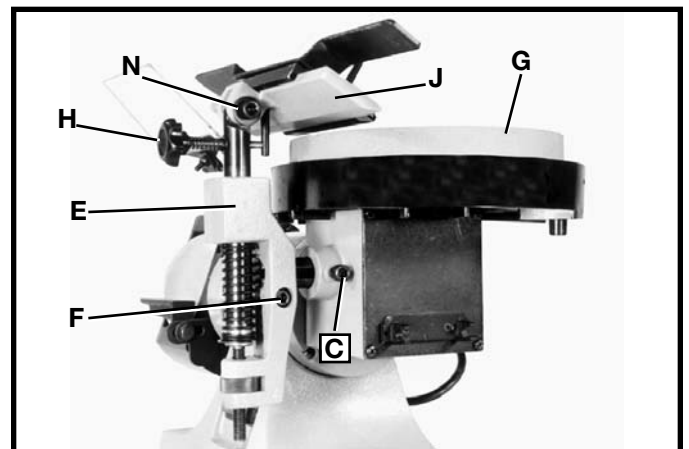

Fig. 17
8. To raise or lower the tool and chisel holder assembly (E) Fig. 17, refer to STEP 5.
9. To tilt the tool and chisel holder (J) Fig.17, to conform with the angle of the tool to be sharpened, loosen set screw (N) and turn knob (H) as necessary. After angle is set, tighten set screw (N).
10. To move the tool and chisel holder (J) Fig. 17, in or out, loosen set screw (C), and slide assembly (E) in or out as desired. After adjustment, tighten screw (C).
11. To level tool and chisel holder base (J) Fig. 17, with the wet grinding wheel (G), loosen screw (F) with supplied wrench, and rotate complete base assembly (E) until tool and chisel holder base (J) is level with wet grinding wheel (G), and tighten screw (F).